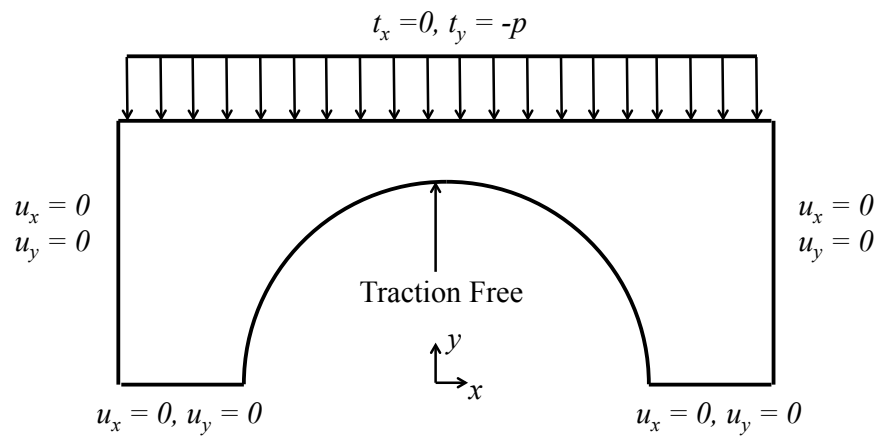

Figure 3: Boundary condition specification for Problem 4 Part 1.
*Part 1:* Assume that the left, right, and bottom surfaces are fixed and the tunnel opening is non-pressurized. Then the resulting boundary condition specification is as depicted in Figure 3. Solve the resulting linear elasticity problem using the MATLAB function `Linear_Elasticity` you wrote for Problem 1. Plot both components of the resulting displacement field and the von Mises stress field over the deformed physical geometry using the MATLAB function `Plot_Elasticity` you wrote for Problem 2. You may choose any value you desire for the amplification factor `amp`. Moreover, determine the *maximum* von Mises stress in the arch. Explain your methodology for determining your results are sufficiently accurate.